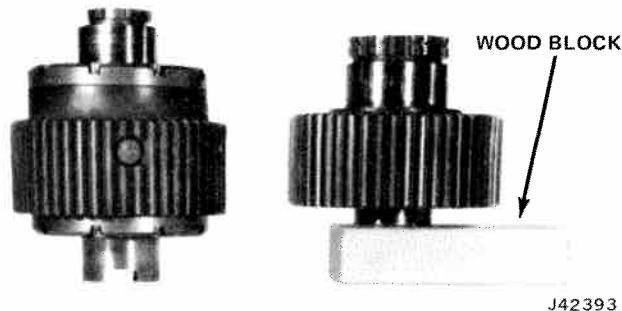

Fig. 8-42 Differential and Drive Sprocket Positioned for Chain Installation
(1) Position drive sprocket on a piece of wood 2 by 4 by 6 inches long.
(2) Place differential assembly about 2 inches from drive sprocket and with front end of differential on bench (fig. 8-42).